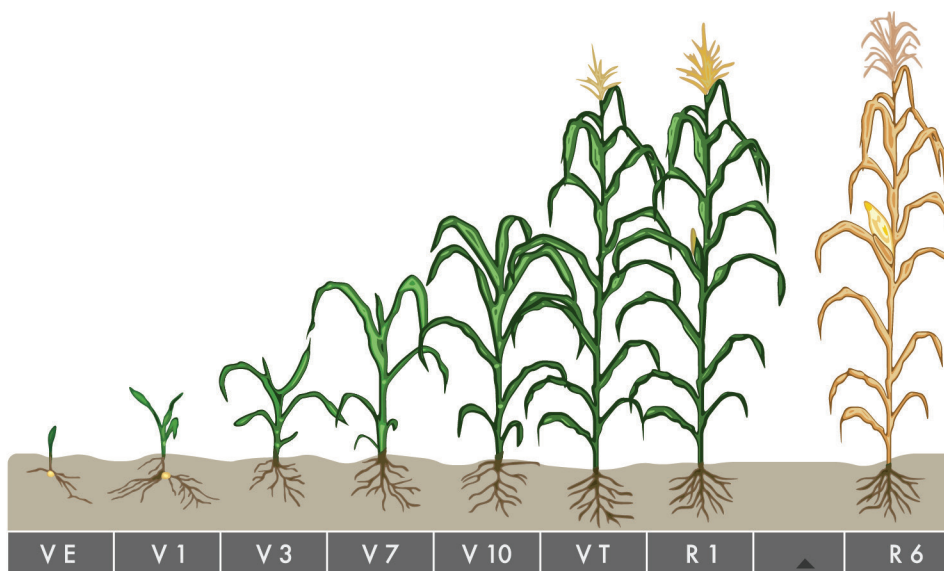

Figure 1. Corn growth stages from emergence to maturity.
Vegetative stages are identified by the number of collars present on the plant. The leaf collar method is generally used for staging vegetative (V) development of corn. When corn seedlings emerge from the soil and no leaf collars have formed, plants are in the VE stage. When the plant has one visible leaf collar, it is in the V1 stage. The leaf collar is a light-colored band located at the base of an exposed leaf blade, near the spot where the leaf blade meets the stem of the plant. Leaves within the whorl, not fully expanded and with no visible leaf collar, are not included in the staging. For example, a plant with three collars would be called a V3 plant; however, there may be five to six leaves showing on the plant (Figure 1). Corn plants generally develop up to the V18 stage before reaching maximum height at tassel emergence (VT) and transitioning into the reproductive (R) stages of growth.